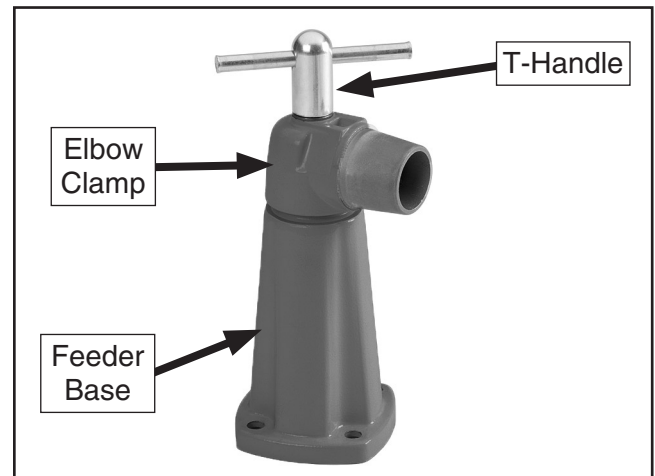

Figure 6. Assembled elbow clamp assembly.
1. Oil the T-handle threads and position the elbow clamp assembly onto the feeder base as shown in **Figure 6**.